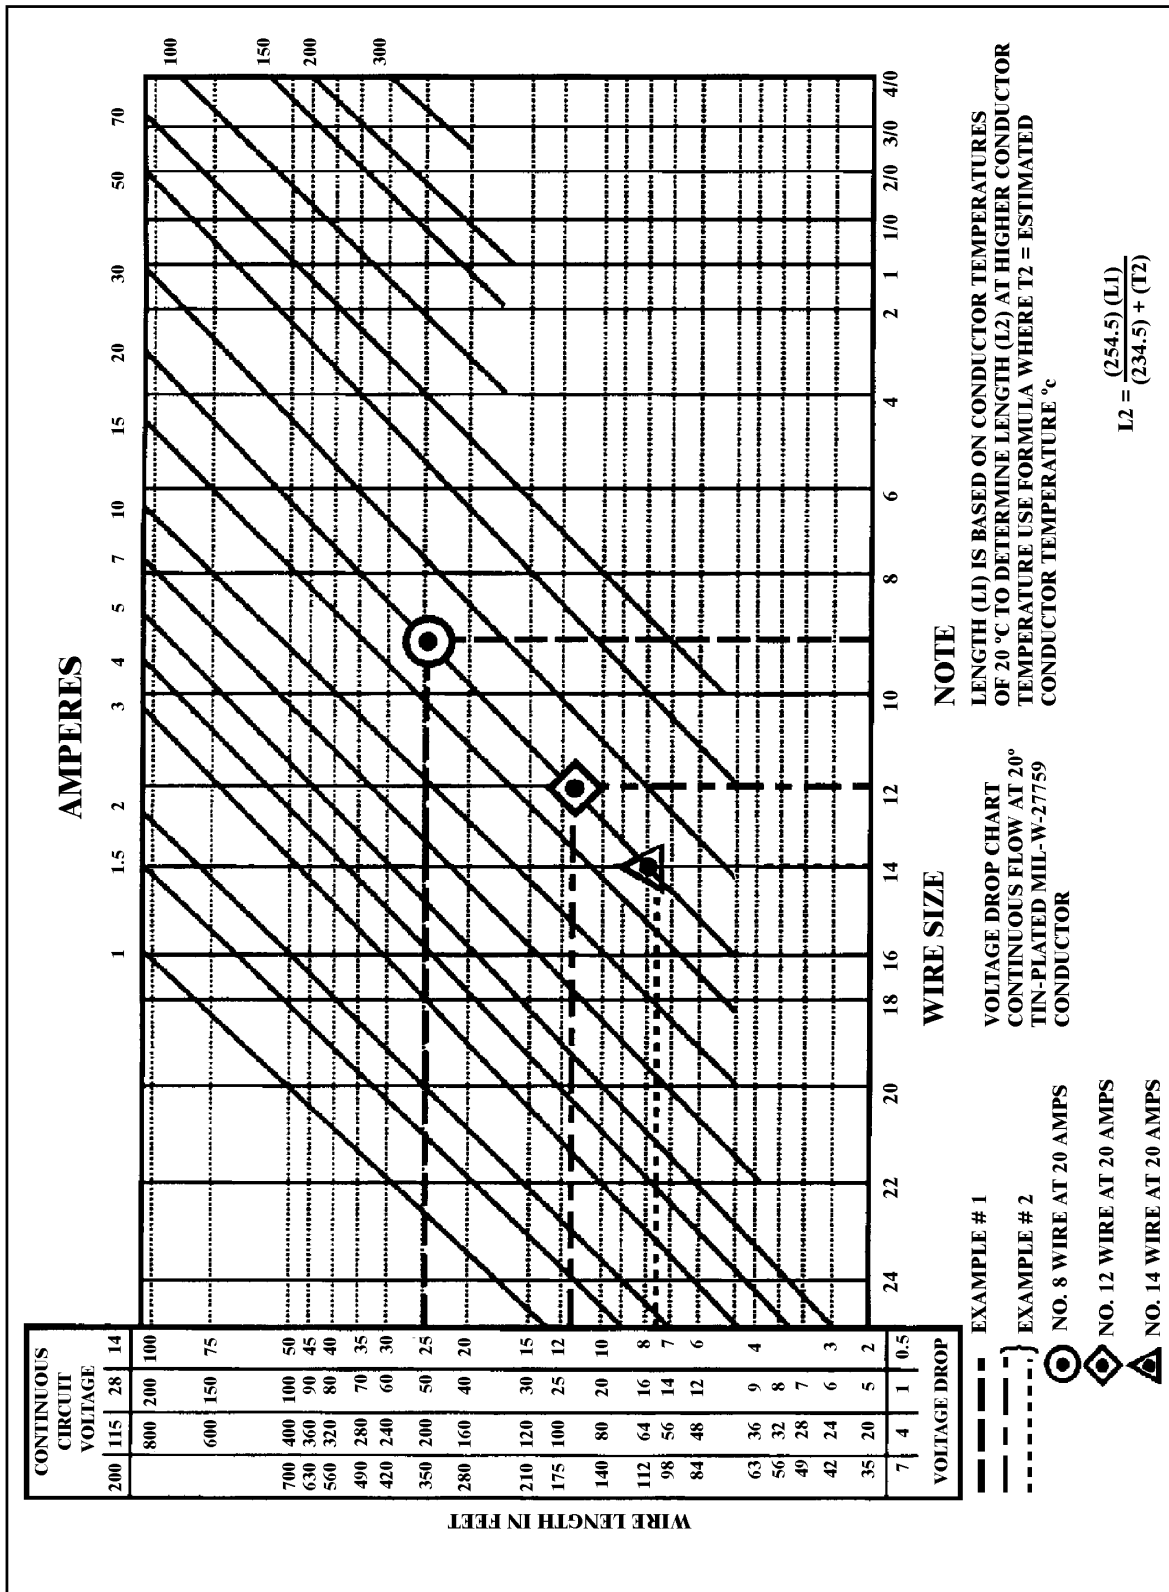
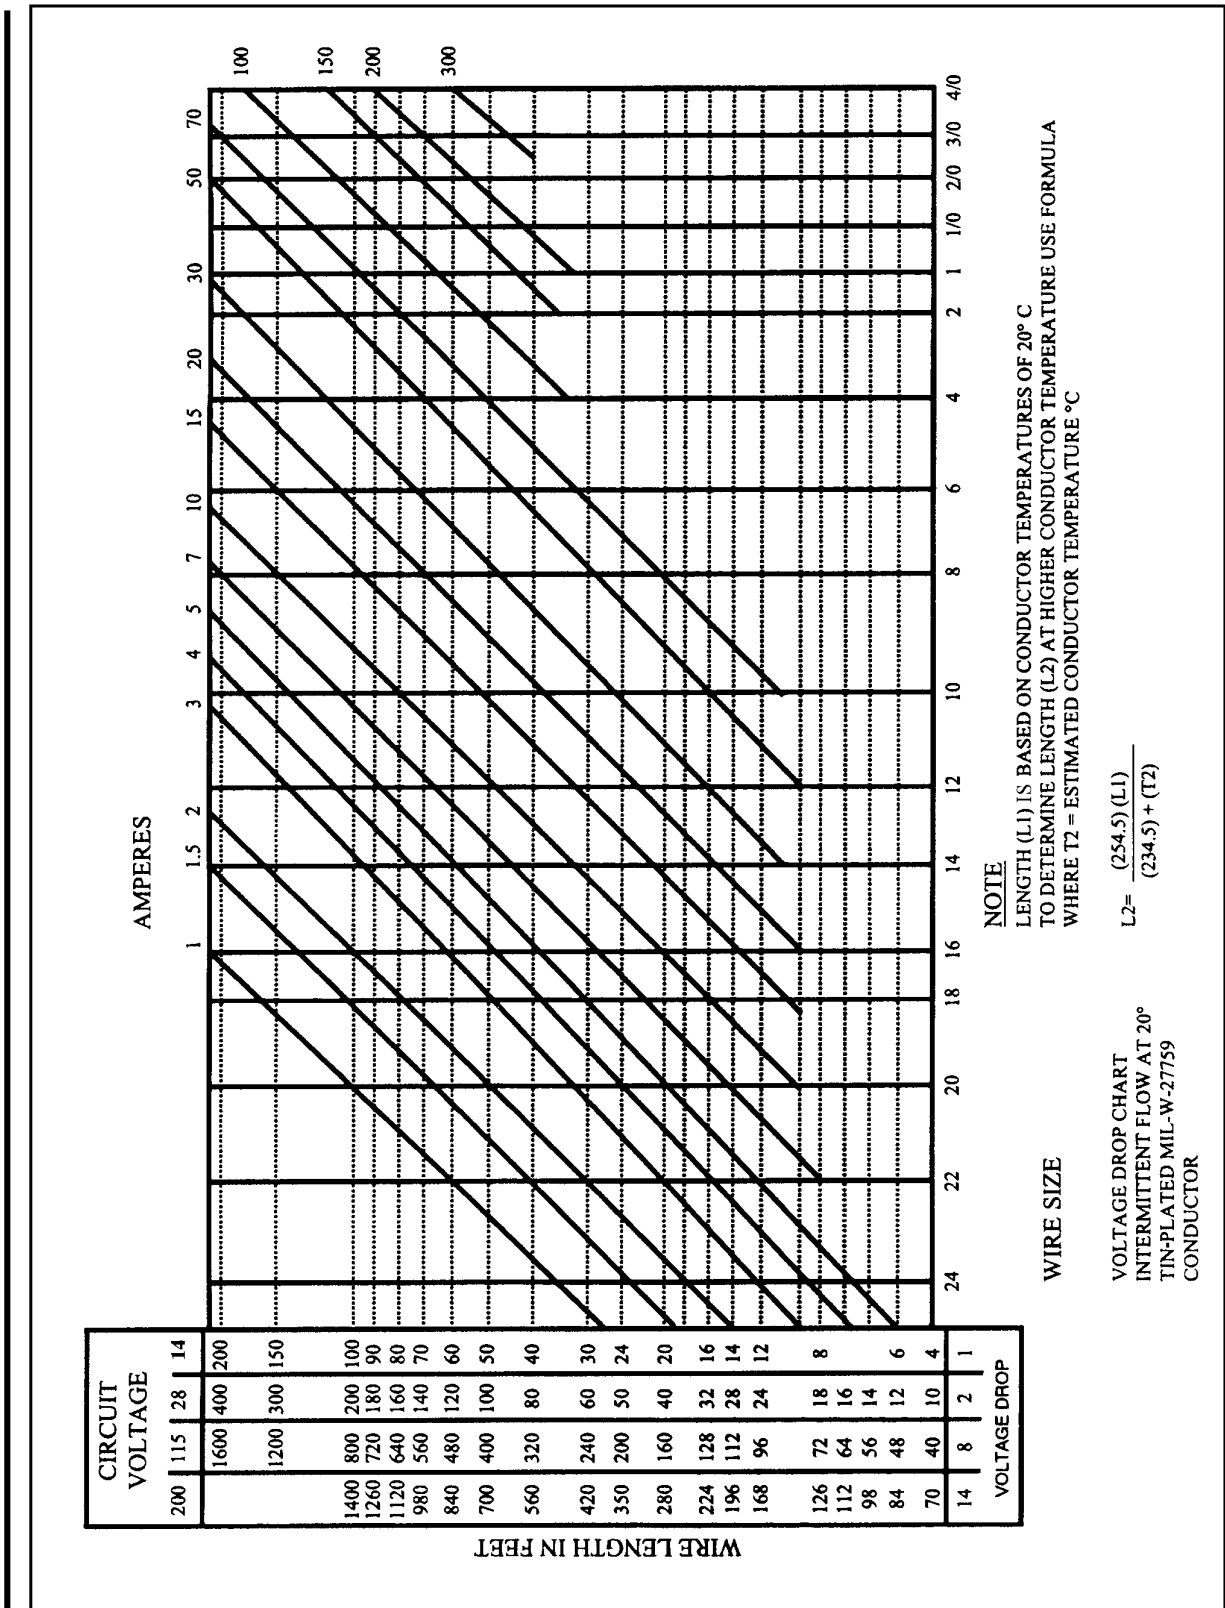

FIGURE 11-2. Conductor chart, continuous flow.
FIGURE 11-3. Conductor chart, intermittent flow.
(1) The wire size should be sufficient to prevent an excessive voltage drop while carrying the required current over the required distance. (See table 11-6, Tabulation Chart, for allowable voltage drops.)
(2) The size should be sufficient to prevent overheating of the wire carrying the required current. (See paragraph 11-69 for allowable current carrying calculation methods.)
b. Two Requirements. To meet the two requirements (see paragraph 11-66b) in selecting the correct wire size using figure 11-2 or figure 11-3, the following must be known:
- (1) The wire length in feet.
- (2) The number of amperes of current to be carried.
- (3) The allowable voltage drop permitted.
- (4) The required continuous or intermittent current.
- (5) The estimated or measured conductor temperature.
- (6) Is the wire to be installed in conduit and/or bundle?
- (7) Is the wire to be installed as a single wire in free air?
c. Example No. 1. Find the wire size in figure 11-2 using the following known information:
- (1) The wire run is 50 feet long, including the ground wire.
- (2) Current load is 20 amps.
- (3) The voltage source is 28 volts from bus to equipment.
(4) The circuit has continuous operation.
(5) Estimated conductor temperature is 20 °C or less.
STEP 3: At this point, drop vertically to the bottom of the chart. The value falls between No. 8 and No. 10. Select the next larger size wire to the right, in this case No. 8. This is the smallest size wire that can be used without exceeding the voltage drop limit expressed at the bottom of the left scale. This example is plotted on the wire chart, figure 11-2. Use figure 11-2 for continuous flow and figure 11-3 for intermittent flow.
d. Procedures in Example No. 1 paragraph 11-68c, can be used to find the wire size for any continuous or intermittent operation (maximum two minutes). Voltage (e.g. 14 volts, 28 volts, 115 volts, 200 volts) as indicated on the left scale of the wire chart in figure 11-2 and 11-3.
e. Example No. 2. Using figure 11-2, find the wire size required to meet the allowable voltage drop in table 11-6 for a wire carrying
L₁=15.5 feet maximum run length for size #14 wire carrying 20 amps from figure 11-2
The size #14 wire selected using the methods outlined in paragraph 11-66d is too small to meet the voltage drop limits from figure 11-2 for a 15.5 feet long wire run.
$L_1 = 24$ feet maximum run length for 12 gauge wire carrying 20 amps from figure 11-2.
The resultant maximum wire length, after adjusting downward for the added resistance associated with running the wire at a higher temperature, is 15.4 feet, which will meet the original 15.5 foot wire run length requirement without exceeding the voltage drop limit expressed in figure 11-2.